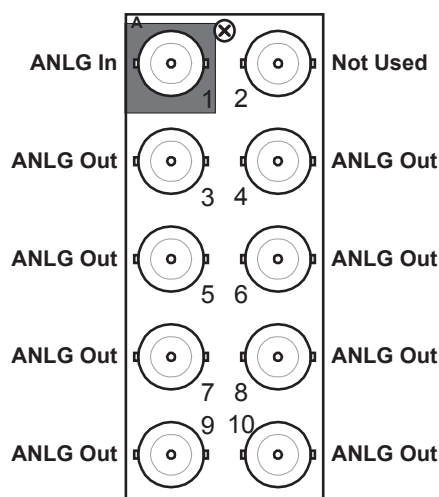

Figure 2.2 Cable Connections for the 8310AR-030 and 8320AR-030 Rear Modules
- **8310AR-030** Rear Module — Each rear module occupies one slot and accommodates one card. This rear module provides one analog input, and eight analog outputs. (**Figure 2.2**)
- **8320AR-030** Full Rear Module — Each rear module occupies two slots and accommodates one card. This rear module provides one analog input, and eight analog outputs. (**Figure 2.2**)